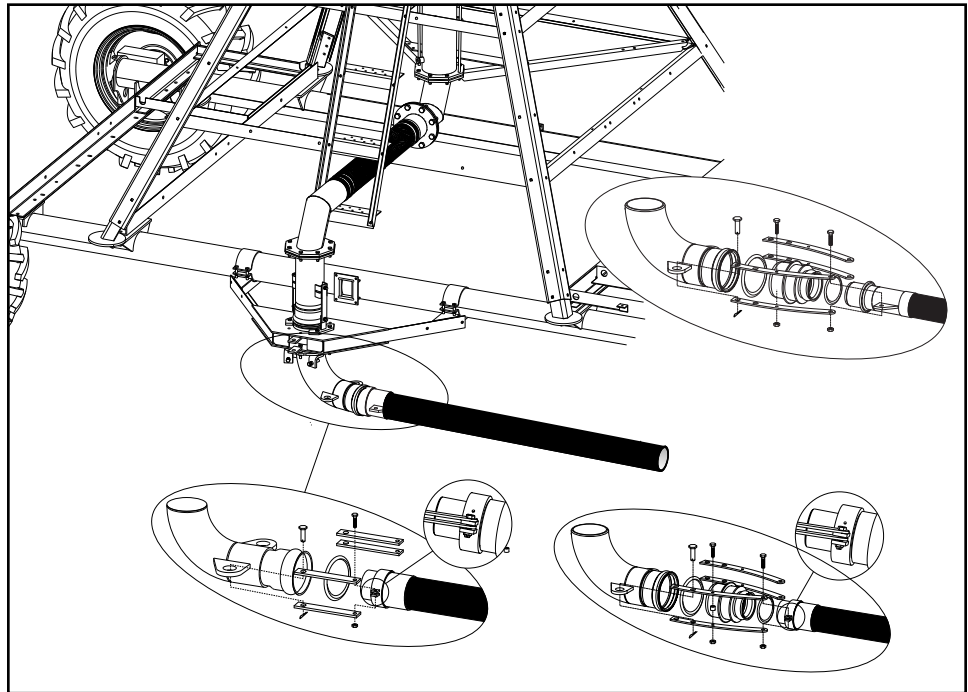

Figure 51-1 Side Inlet Hose Couplers
- Hose coupler design varies depending on the type and size of the hose. See Figure 51-1.
- Side inlet hose couplers are secured to the inlet with pull straps. See Figure 51-1.
- Center inlet hose couplers are secured to the inlet with a circle lock ring. See Figure 51-1.